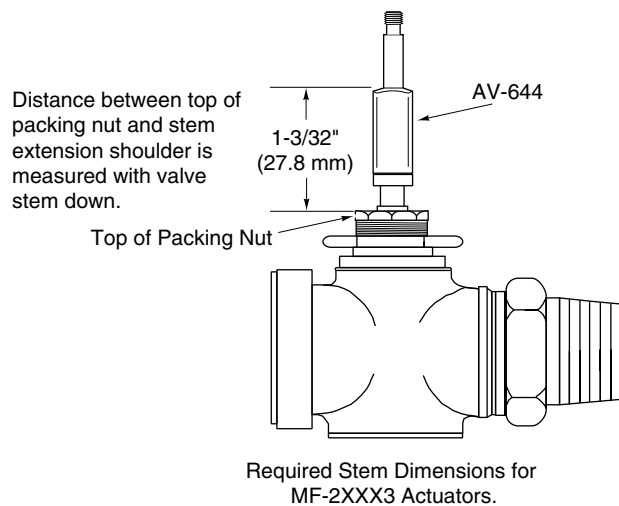

Figure-11 Valve and Stem Extension Assembly.
3. Screw the locknut and stem extension onto the valve stem. Adjust the stem extension of the selected actuator to the height specified for that model, see Figure-11. This dimension is the distance from the top of the packing nut to be shoulder of the stem extension.